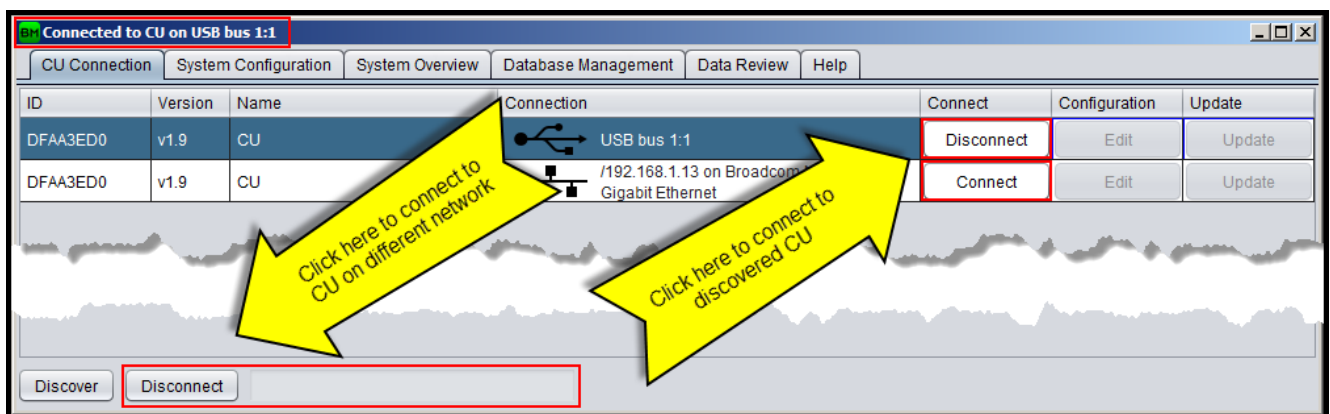

Figure 19: CU connection
- Connect to the CU pressing the **"Connect"** button. Once connected the windows title and icon changes as shown on Figure 19. Ethernet discovery only works if the CU and the PC are on the same LAN. In case the CU is not discoverable because not on the same LAN, the user must write the public address or name on the field on the page bottom and click on the **"Connect to:"** button.